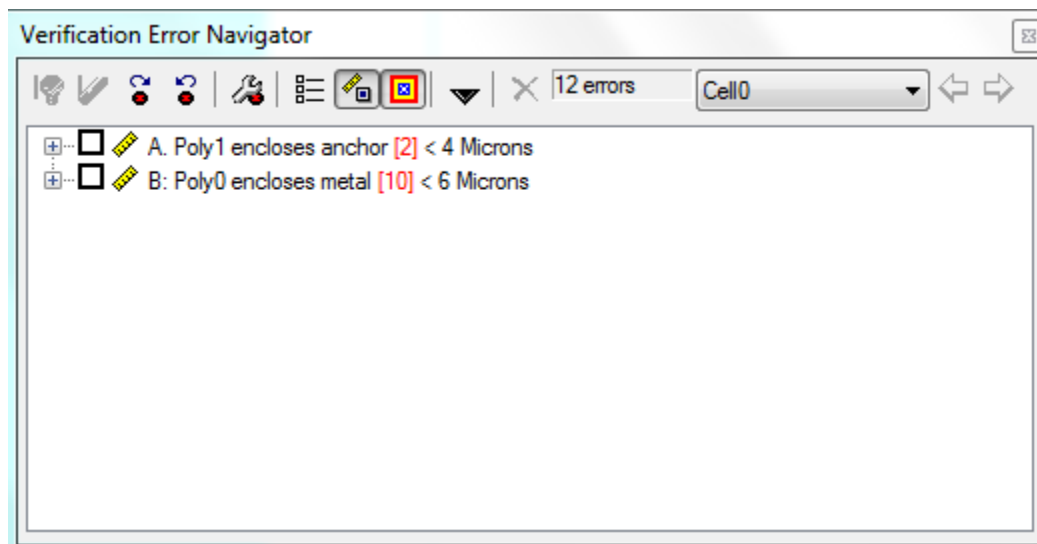

Figure 63: **DRC Error Navigator** dialog.
- The **Verification Error Navigator** dialog displays all errors (Figure 63).